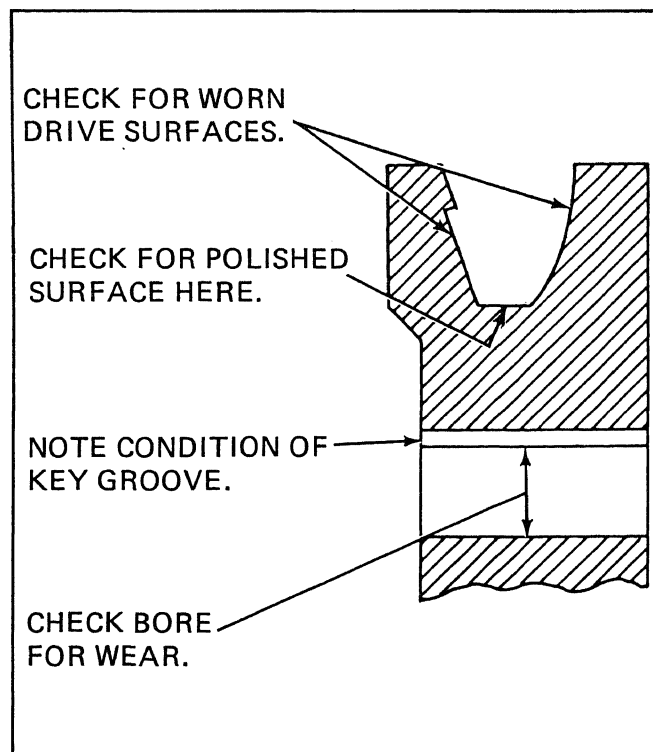

Figure 5-28.19. Pulley Inspection Points
- (5) Inspect pulley for possible faults shown on figure 5-28.19.
- (6) Inspect spacer for cracks. Replace spacer if cracks are present.
- (7) Inspect front bearing cavity of front housing for evidence of wear. Note condition of retainer recess, replace housing if worn.
- (8) Inspect front bearing retainer for distortion, replace if retainer is distorted.
- (9) Inspect bearings for adequate lubrication.